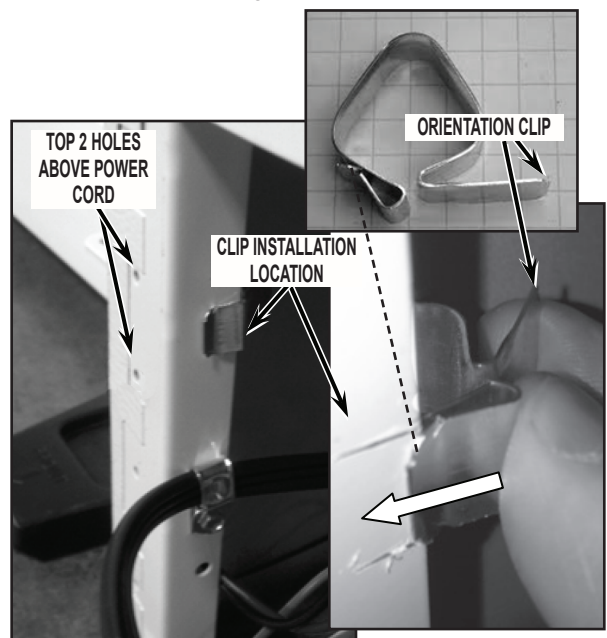

FIGURE 4
6. Install the orientation clip on the glider rail, in between the top two holes above the power cord. Note orientation of the orientation clip on the glider rail. See *Figure 4*.